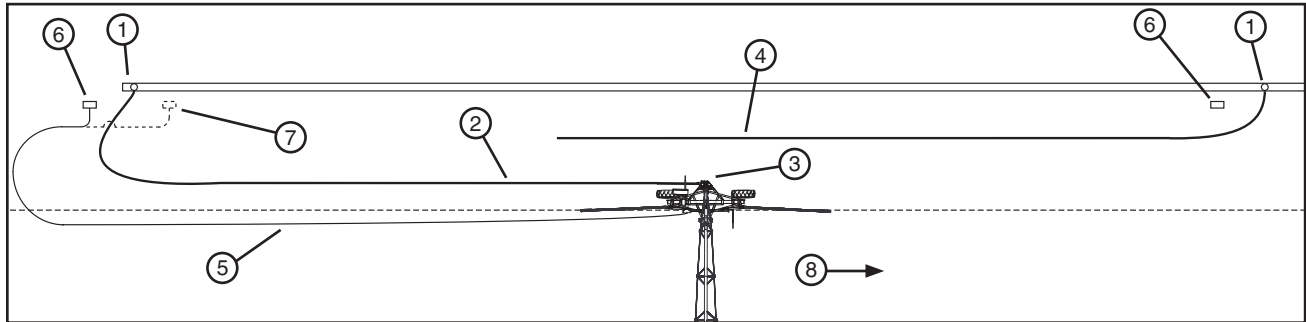

Figure 55-1 1. Shut Off Valve 3. Swivel Inlet 5. Electric Cord 7. Alternate Power Pedestal Location and Electric Cord Position
6. As the machine approaches the end of field/hose stop post, Stop the machine and close the water shut off valve for the first hose. See figure 55-1.